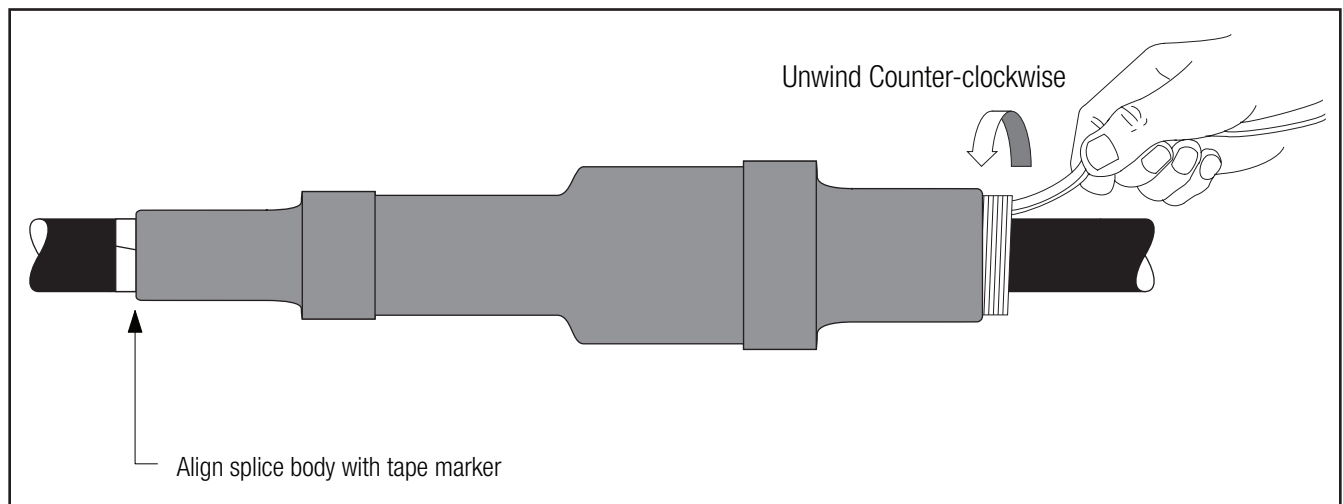

Figure 20
5.5 Position the splice body over connector area, aligning end of the splice body (not the core) at the center of the tape marker. Slowly start to remove the splice core by pulling and unwinding the loose core end counterclockwise, allowing only 1/4" (6 mm) of the splice to shrink onto the tape marker. Carefully slide the splice body off the tape marker by pulling and twisting until the entire tape marker is exposed. Continue removing the core to complete the splice body installation (Figure 20).